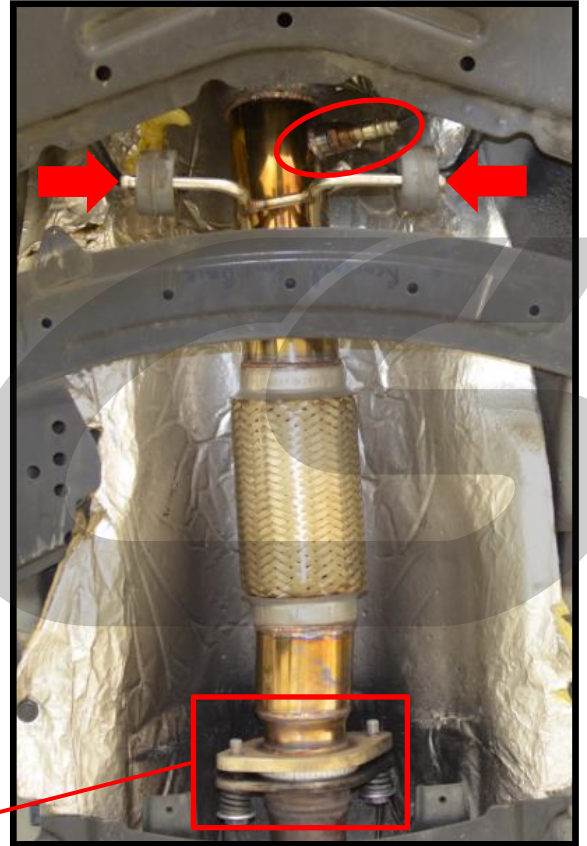

Figure 6c
- c) Remove the second oxygen sensor with an oxygen sensor socket and 1/2" ratchet, **circled in red** in **Figure 6c**.
- e) Remove the exhaust hangers from the downpipe, shown with the **red arrows** in **Figure 6c**.